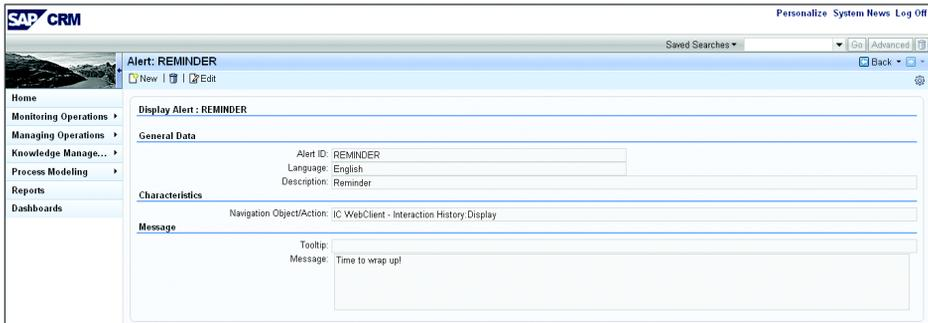

Figure 4.123 Alert Details with the Message
2. Figure 4.123 shows the navigation object of interaction history display, which you can navigate to from the alert message. The alert message here is TIME TO WRAP UP!.